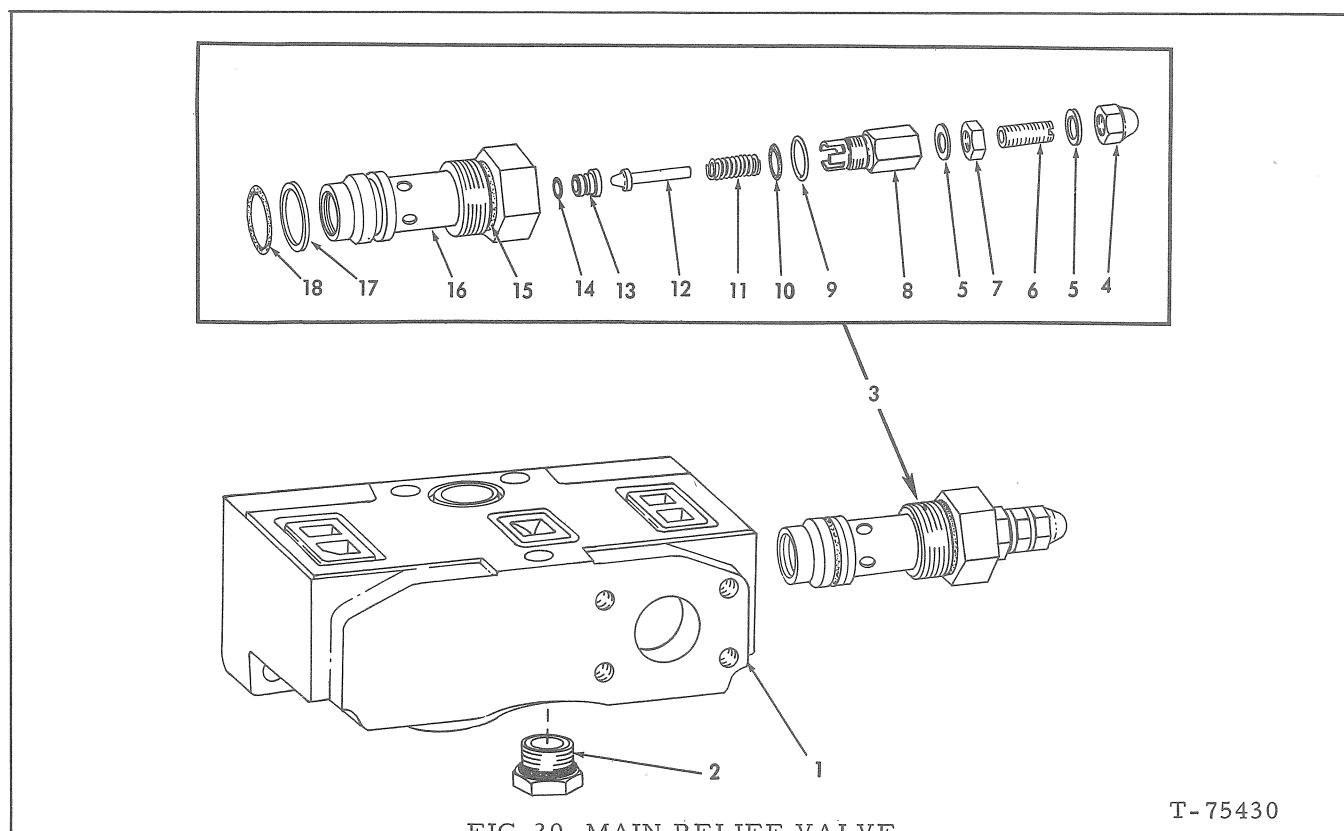

FIG. 20 MAIN RELIEF VALVE
The upper main relief valve, Fig. 19 (1), has two holes on the tank side to return oil to the hydraulic tank and a main relief valve, Fig. 20, to regulate pressure in the hydraulic system.
The lower valves, Fig. 19 (2 and 3), do not have holes to return oil to tank, and valve (2) has a plug, Fig. 20 (19), instead of a relief valve.
NOTE: If removal of only the main relief valve assembly, Fig. 20(3), is required, it may be removed by unscrewing it from its housing as an assembly without disturbing any other hydraulic control valve components.
NOTE: On tractors equipped with a dozer only, a plug, Fig. 20 (19) is used in place of a relief valve in the lower section.
Refer to Fig. 20 and unscrew cartridge assembly (3) from housing (1).
Secure cartridge assembly in a vise, and remove acorn nut, Fig. 20 (4), washer, jam nut, and washer from the adjusting screw. Loosen the screw, and then remove the spring retainer, screw, spring and poppet, as an assembly. The seat (13), with O-ring, may be removed with a small hook. The balance of the assembly is serviced only as a unit; therefore, it should not be taken apart.
Secure the cartridge, Fig. 20 (16), in a vise (at the nut). Install a new O-ring (14) on the floating seat; lubricate and push seal into cartridge.
Position a new back-up ring, Fig. 20 (17), and O-rings (15 and 18) on cartridge as shown. Install valve assembly into housing section, and tighten securely. After pressure is adjusted install washer (5) jam nut (7) washer (5) and acorn nut (4).